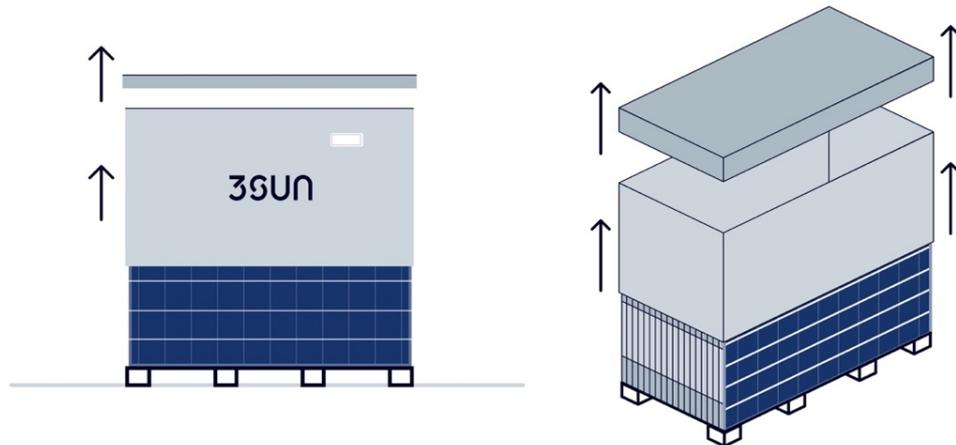

Figure 15: Removal of perimeter cardboard box and box top.
- b) Remove the box cardboard cap and then the perimetral cardboard box (Figure 15).